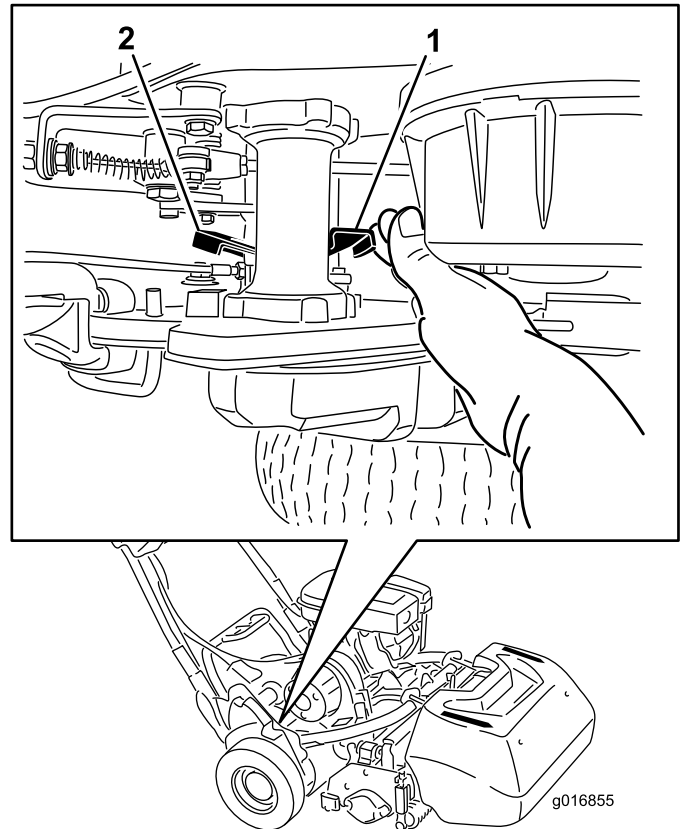

Figure 29
1. On the right rear corner of the machine, locate the traction engage/disengage lever next to the drive housing drum (Figure 29).